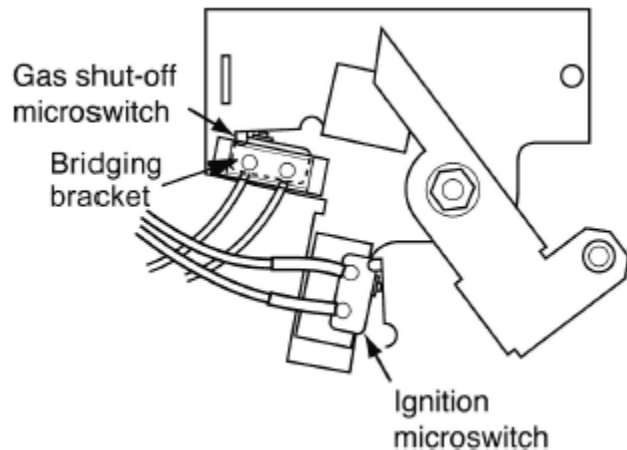

Figure 35. Microswitches
See figure 35.
2. Disconnect the leads from the ignition microswitch (The lower of the two microswitches - See figure 35).
(See figures 35 & 36).
4. Detach the bridging bracket, microswitch assembly by removing two screws (See figure 35).